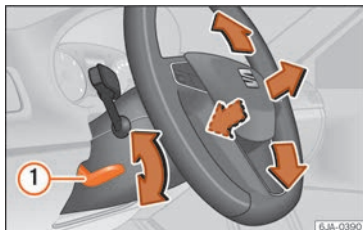

Fig. 17 Lever in the lower left side of the steering column.
Adjusting the position of the steering wheel: pull the » » » **Fig. 17** ① lever down, move the steering wheel to the desired position and lift the lever back up until it locks.